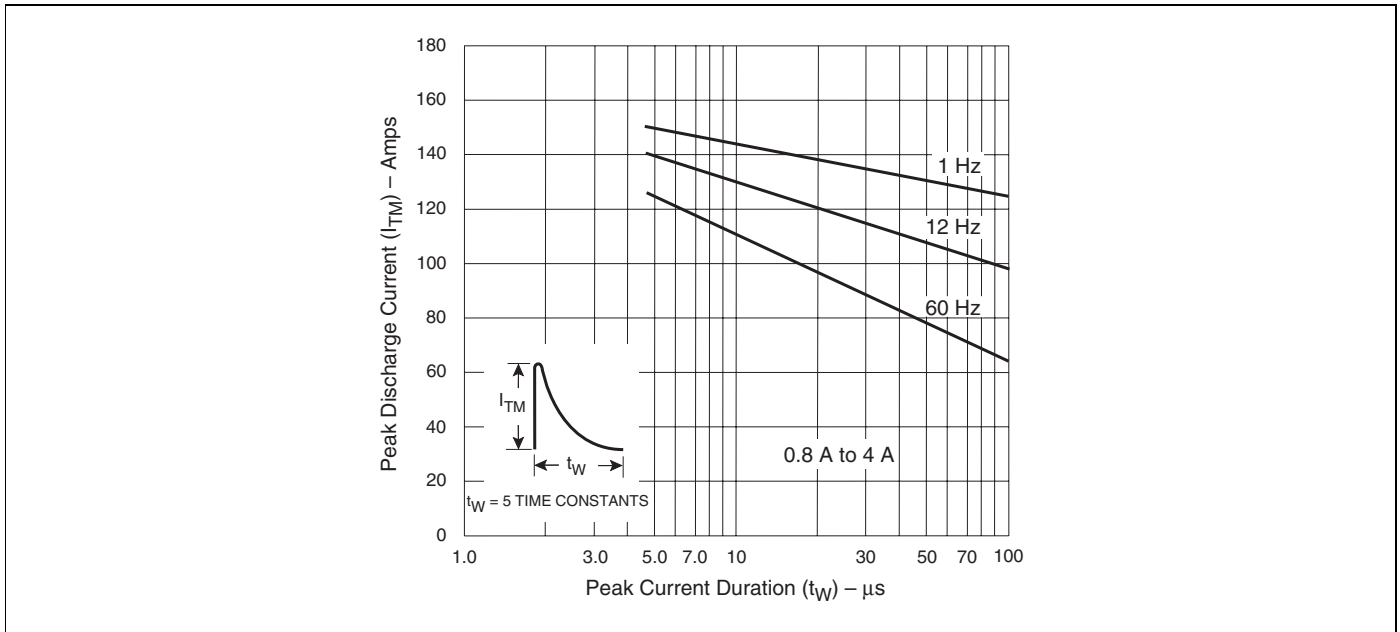

Figure E5.20 Peak Repetitive Capacitor Discharge Current
- (7) 0.8 A to 4 A devices also have a pulse peak forward current on-state rating (repetitive) of 75 A. This rating applies for operation at 60 Hz, 75 °C maximum tab (or anode) lead temperature, switching from 80 V peak, sinusoidal current pulse width of 10 μs minimum, 15 μs maximum. See Figure E5.20 and Figure E5.21.